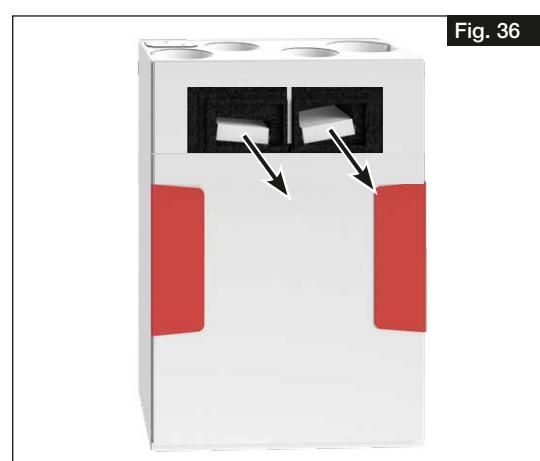

Fig. 36
2. Pull filter to the front and replace (see Fig. 36).